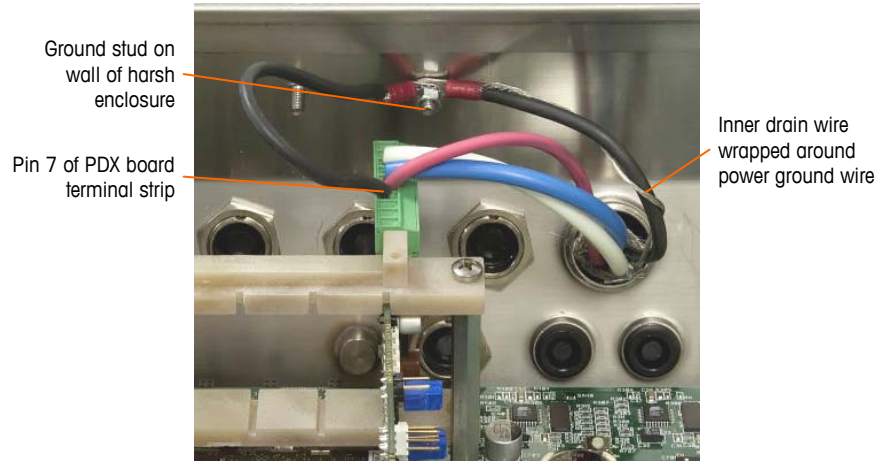

Figure A-52: PDX Home Run Power Ground Connection, Harsh
- b. Next, twist the home run cable's inner drain wire together with the core power ground wire and make a connection to the same ground stud using another ring terminal as shown in Figure A-52.